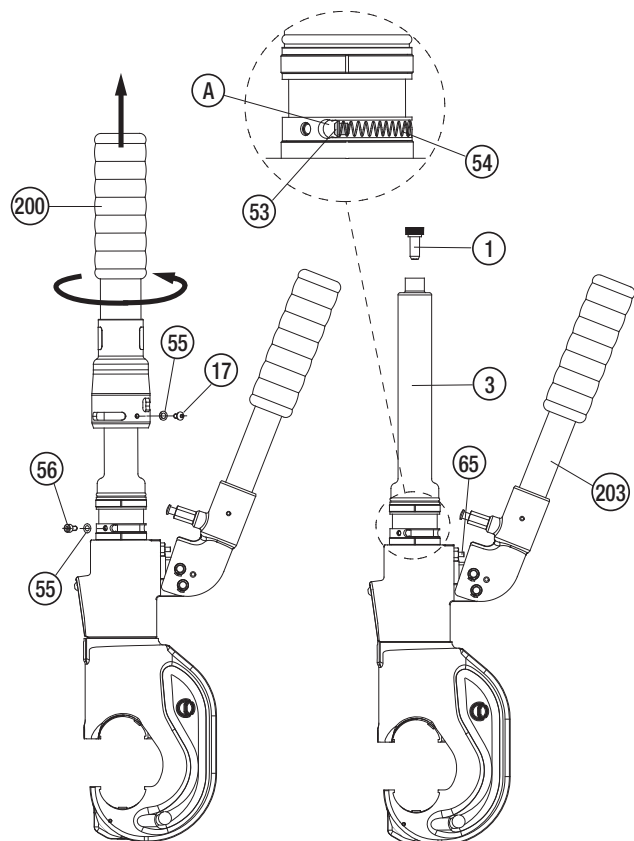

FIGURE 4 For Maintenance Operations
Air in the hydraulic circuit may affect the performance of the tool (e.g. no lower die advancement; slow advancement of lower die; lower die pulsating). See Figures 4 and 5.
- Hold tool upright with the head in a vice and handles open (Figure 4).
- Using a 2,5mm allen key, remove screws (17 and 56), slide off the fixed handle (200) to expose the oil reservoir (3). Recover spring (54) and spring cover (53).
- Remove reservoir cap (1).
- Operate the moveable handle (203) three or four times to advance the ram (202).
- Depress pressure release pin (65) until ram is fully retracted.
- Replace the cap (1).
- With the tool in the horizontal position, relocate spring (54) and spring cover (53) in seat A (see detail in Fig. 4). Reassemble the fixed handle (200), insert screws (17 and 56) complete with washers (55) in their respective positions and tighten them.